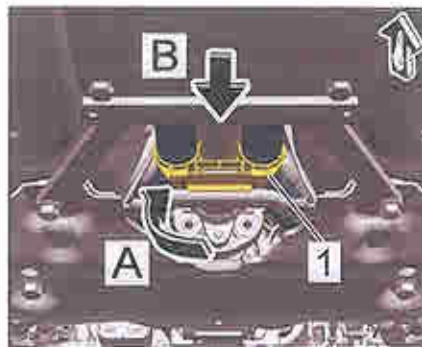

Figure 19
- 8.1 Press in holder for coolant pipes ⇒ *Figure 19-1* - on the right coolant pipe ⇒ *Figure 19 -arrow A-*.
- 8.2 Clip holder into the aluminium strut on the reinforcement plate ⇒ *Figure 19 -arrow B-*.